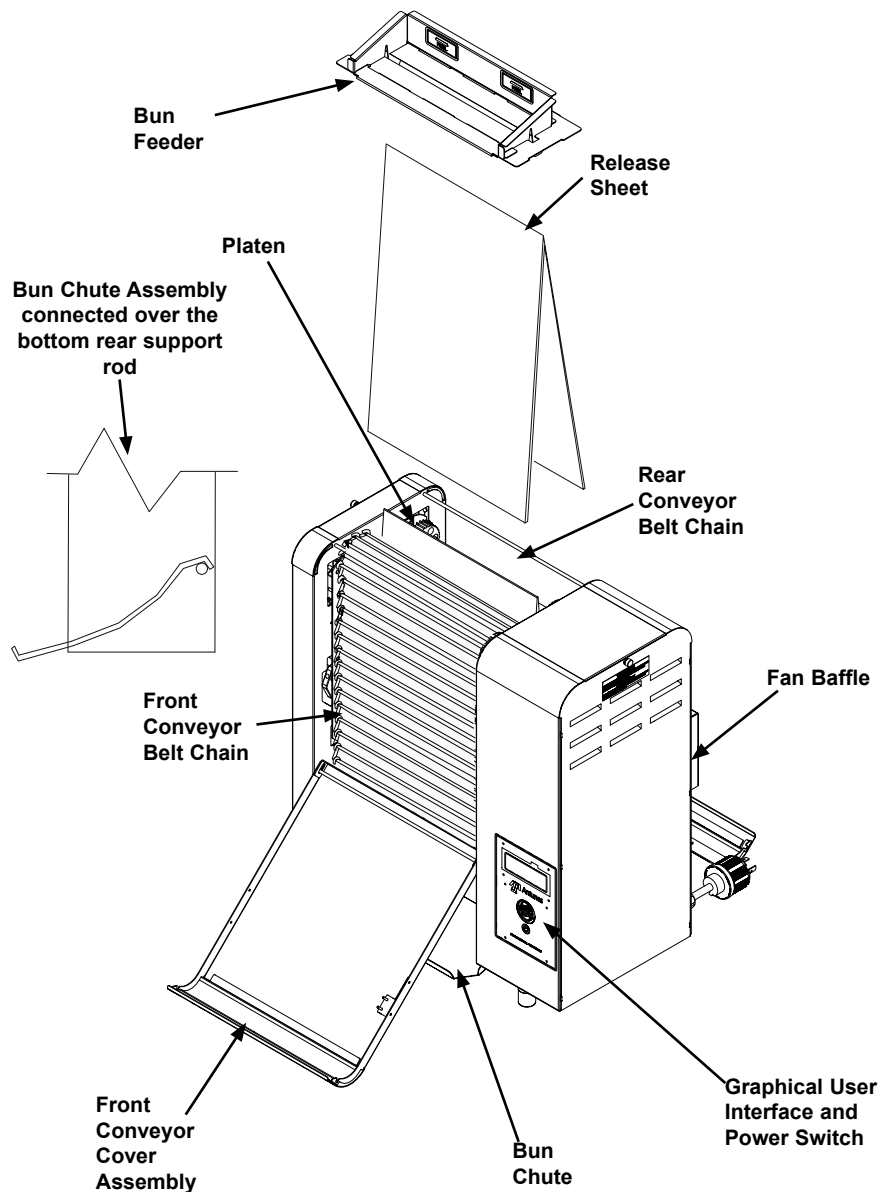

Figure 1. Components
5. Install the Bun Chute, Release Sheet, and Bun Feeder as shown in Figure 1.
3. Wearing Heat Resistant Gloves, remove the following items from the toaster (refer to Figure 1):